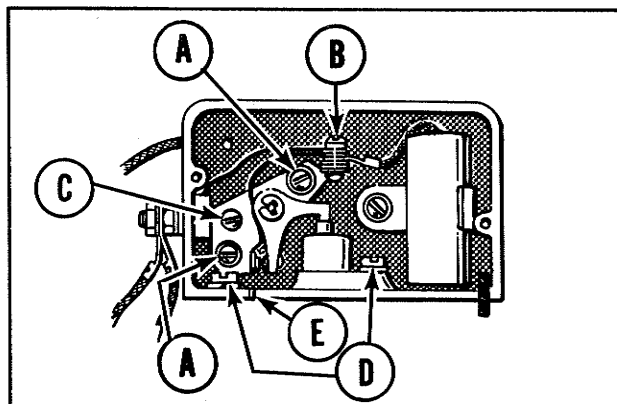

Figure 32. Breaker point box.
6. See figure 32. Remove the two mounting screws marked (A) and pull the points out of the box just far enough so screw (B) can be removed.
7. After removing screw (B) replace the points with a new set. Replace, but do not tighten the two mounting screws (A).
6. See figure 32. If the timing is very far off, attain an approximate setting by loosening the mounting screws (D) and shift the breaker box (and spacer if used) to align the refer-
- ence marks (E) on the crankcase and breaker box (or spacer).
8. Slightly loosen the two mounting screws (A) in figure 32 to adjust the point gap to .020".
9. Start the engine and check the timing. With the two screws (D) slightly loose, the breaker point box can be moved left to advance the spark or right to retard the spark (as you face the breaker point box from the front of the engine).